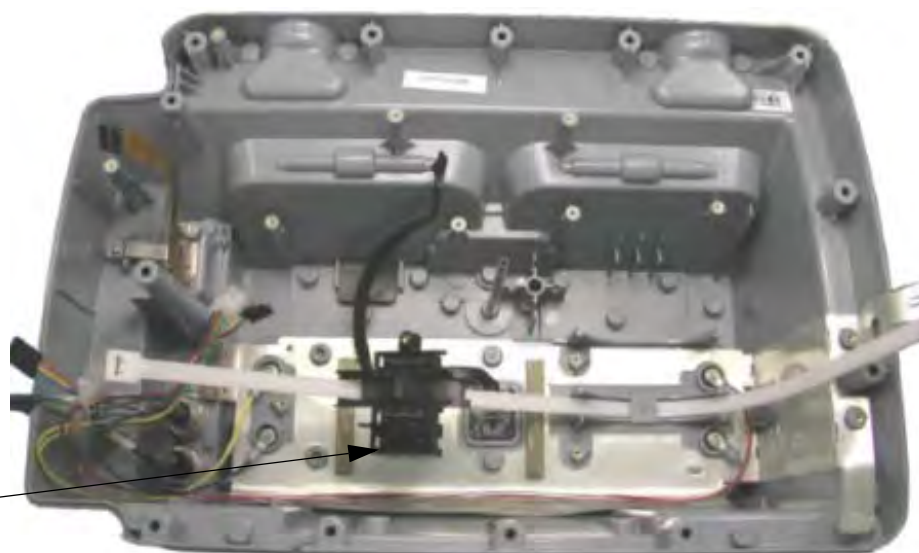
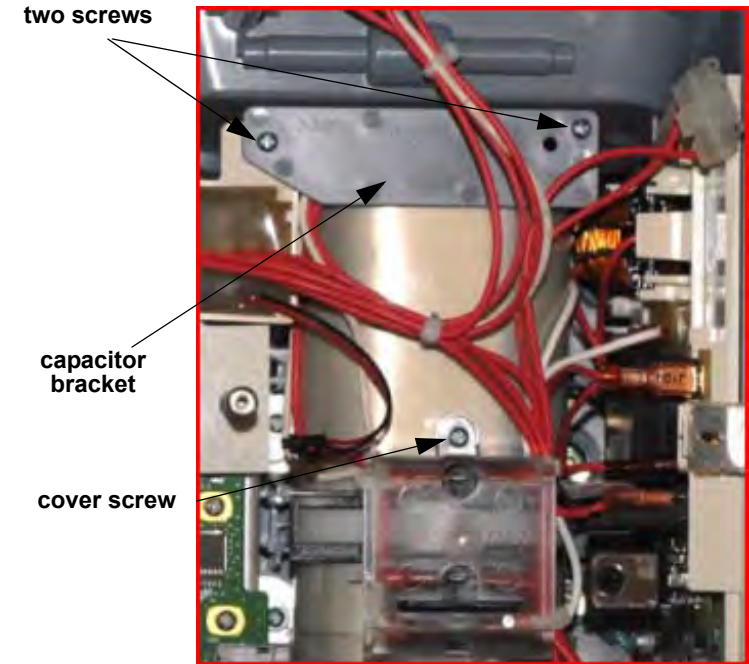

Figure 8.78—Interconnect bracket location
Figure 8.79—Interconnect bracket screw locations
Refer to Figure 8.78 on p. 284.
Refer to Figure 8.78 on p. 284 and Figure 8.79 on p. 285.
4. Secure the clear plastic high-voltage shield (3010593-00) to the interconnect bracket with one new screw (202253-761); torque to 6.8 in-lb (see Figure 8.79 on p. 285).
5. Secure the capacitor bracket (3207031-001) with two new screws (202253-761); torque to 6.8 in-lb (see Figure 8.79 on p. 285).